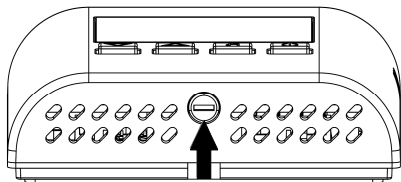

Fig. 2
- 1 Push, with the help of a screwdriver, the plastic tooth located in the slot on the bottom side, then slightly lift up the plastic cover (Fig. 2).